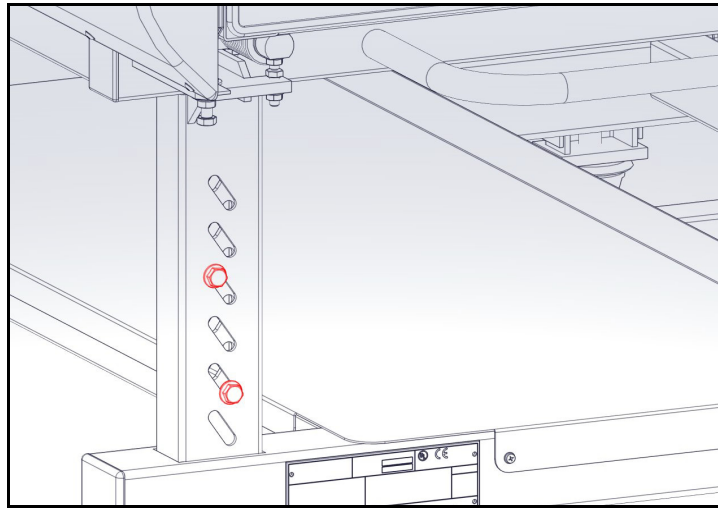

Figure 5
5. Locate the retaining bolts and slotted adjustment holes in the frame legs (see **Figure 5**).
9. When the desired height is achieved, push the retaining bolts through the slotted holes in the frame and leg. There should always be at least two openings that the bolts will pass through. If possible, place the bolts with at least one slot between them as shown in **Figure 5**.